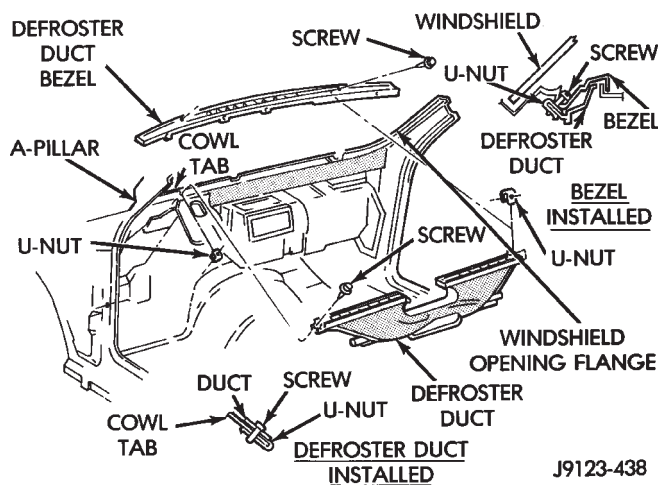

Fig. 22 Defroster Duct Removal/Installation
(3) Remove the retaining screws at the cowl tabs and remove the defroster duct from the dash panel (Fig. 22).